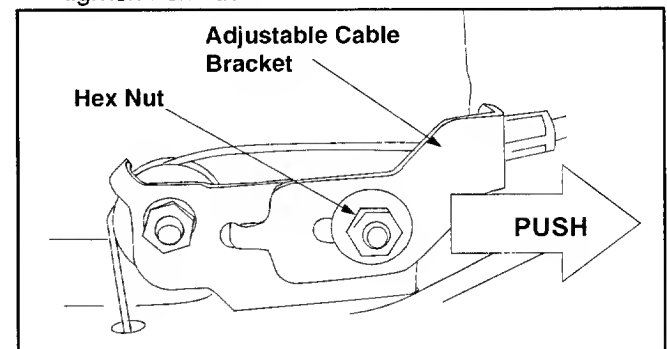

Figure 15
- Loosen hex nut which secures the adjustable cable bracket. See Figure 15.